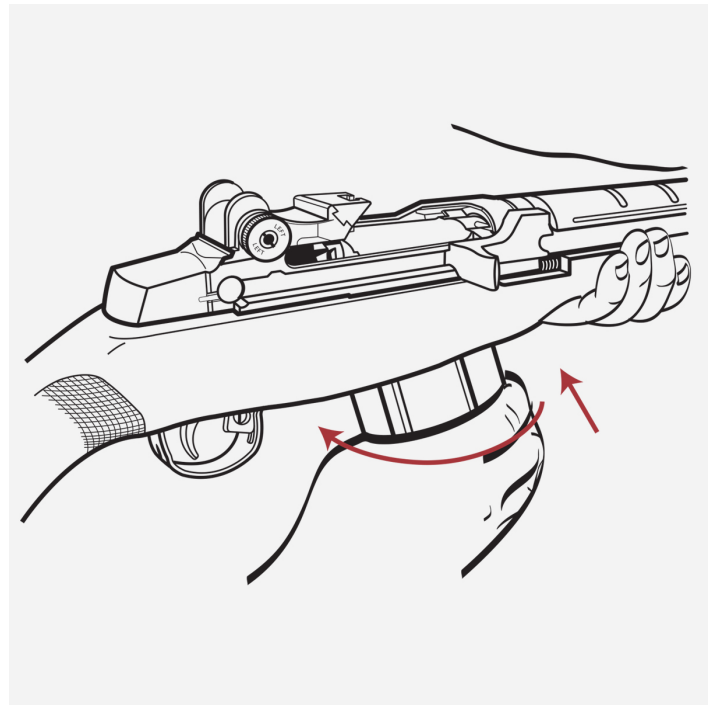

Fig 4
2. Insert the magazine into the magazine well with the rear of the magazine slightly lower than the front. When the front of the magazine is fully inserted, firmly rock the magazine up and to the rear until it locks [see figure 4]. You may have to push hard to accomplish this. When the magazine is properly in place it cannot be removed without pressing the magazine release.